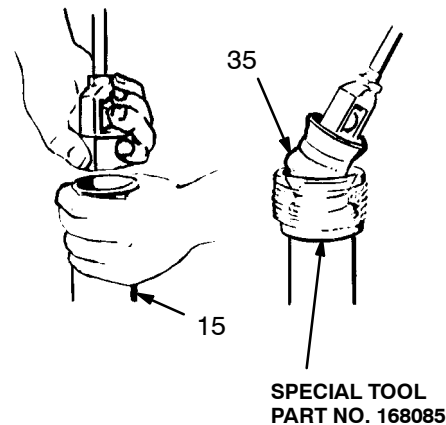

Fig. 4
7. A special assembly tool, Part No. 168085, should be used to install the piston assembly into the cylinder. This tool is made from 0.016" (0.41 mm) shim stock and helps protect the edges of the packings from damage during reassembly. Place the tool around the piston packings as shown in Fig. 4. Start the bottom packings (35) into the cylinder and then remove the tool.